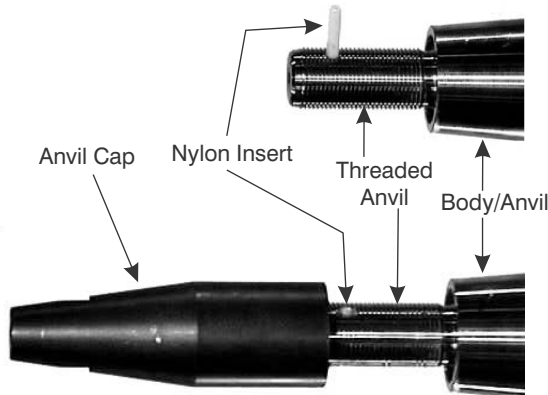

Figure 8-3. Anvil Cap and Nylon Insert
During operation of the Hole-Hog, the Nylon Insert (3) pressing against the threads prevents the Anvil Cap from vibrating off of the anvil. Refer to Figure 8-3